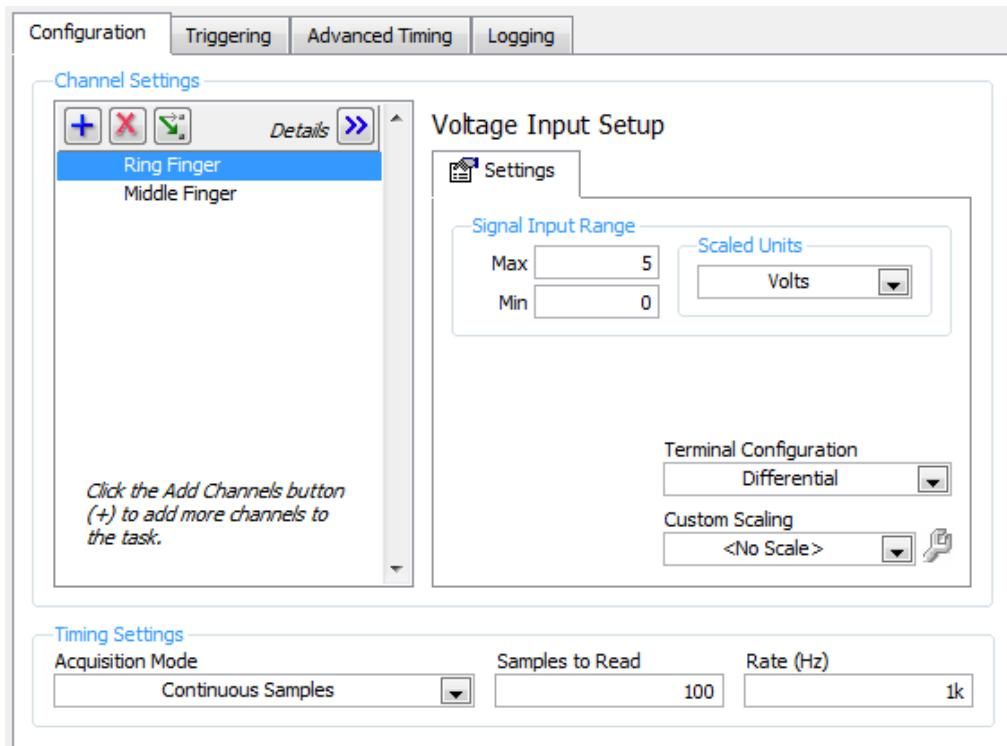

Figure 5: DAQ Assistant set up
10. The set up screen for the DAQ Assistant is shown in figure 5.